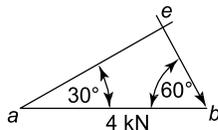
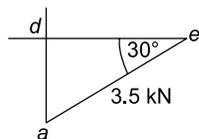
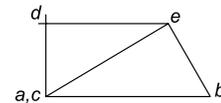

Figure 6.16
Figure 6.17
Figure 6.19
Consider joint *ABE*, as there are only two unknown forces here, namely the forces in the members *BE* and *EA*. Working clockwise around this joint, the vector diagram for this joint is shown in Figure 6.16.
Joint (2) cannot be considered next, as it has three unknown forces, namely H_2 , R_2 and the unknown member force *DE*. Hence, joint (1) must be considered next; it has two unknown forces, namely R_1 and the force in member *ED*. As the member *AE* and its direction can be obtained from Figure 6.16, it can be drawn to scale in Figure 6.17. By measurement, $de = 3$ kN.
As R_1 is vertical, then the vector *da* is vertical, hence, the position *d* can be found in the vector diagram of Figure 6.17, where $R_1 = da$ (pointing downwards).
The complete diagram for the whole framework is shown in Figure 6.19, where it can be seen that this diagram is the sum of the vector diagrams of Figures 6.16 to 6.18.